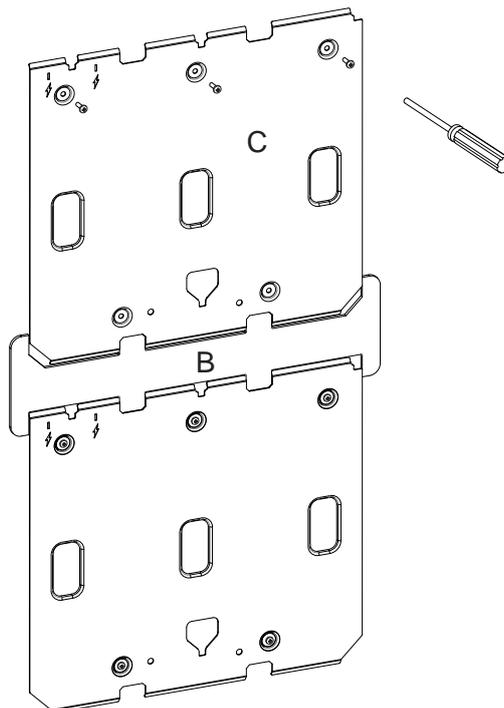

Figure A-7: Position and secure the Expansion StaX Mounting Bracket
2. Align the Expansion StaX Mounting Bracket with the spacer, and secure it to the mounting surface (Figure A-7), then remove the spacer.